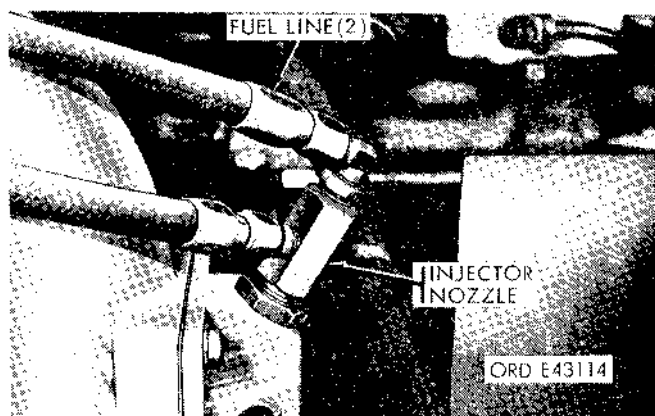

Figure 2-100. Injector nozzle.
(2) Disconnect the two fuel lines from the injector nozzle. Remove the injector nozzle from the housing (fig. 2-100).
(2) Install the injector nozzle to the housing, and connect the fuel lines to the nozzle (fig. 2-100).
(3) Install the spark plug with the gasket (use a new gasket if the plug is a new one) in the housing (fig. 2-100). Connect the igniter wire to the plug.